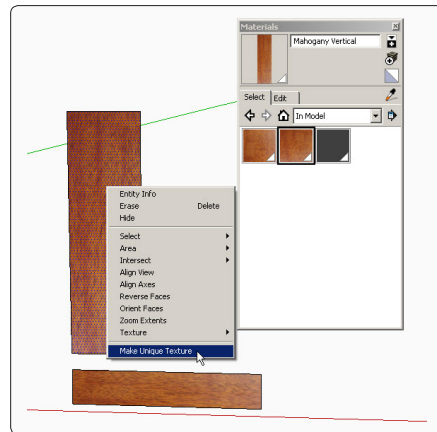

Figure 21. Make the vertical texture unique.
Step 5 Right-click on the vertical texture and choose Make Unique Texture from the pop-up menu, as shown in Figure 21. In the Materials dialog box, change the